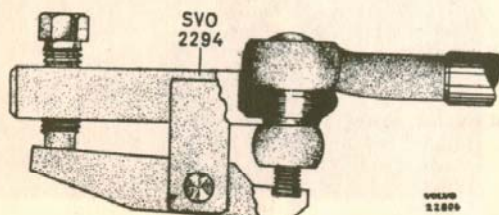
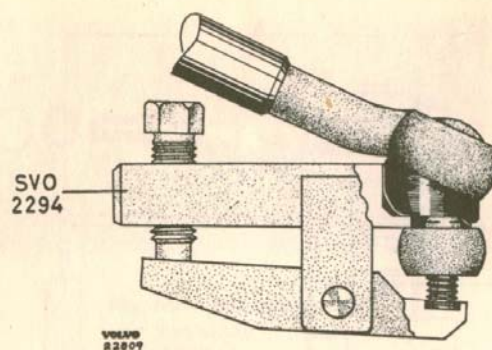

Fig. 6-31. Removing the ball joint
Fig. 6-32. Removing the steering rod
The steering rod ball joints are made integral with the steering rod so that the complete steering rod must be replaced. When removing, first take out the split pins and unscrew the castle nuts. Then place tool SVO 2294 on the ball joint as shown in Fig. 6-31. Press in the tool properly and ensure that the thread on the ball joint enters the countersink on the tool. Screw in the bolt until the ball joint slackens. If the steering rod is removed with the wheel in position, first disconnect the ball joint at the pitman arm and idler arm respectively as described above. When doing this, turn the steering rod forwards and upwards and
place the tool on the ball joint as shown in Fig. 6-32. The tie-rod ball joints can be replaced individually. When replacing, first disconnect the ball joint from the pitman arm and idler arm respectively as described above (Fig. 6-31). Then slacken the locknut and screw out the ball joint. The new ball joint should be screwed in an equal number of turns to facilitate adjusting the toe-in. Lock the ball joint to the rod.
2. Screw back the bolt on puller SVO 2294 and place the tool on the tie-rod ball joint at the idler arm as shown in Fig. 6-31. Press in the tool properly and ensure that the thread on the ball joint enters the countersink on the tool. Screw in the bolt until the ball joint releases from the idler arm.